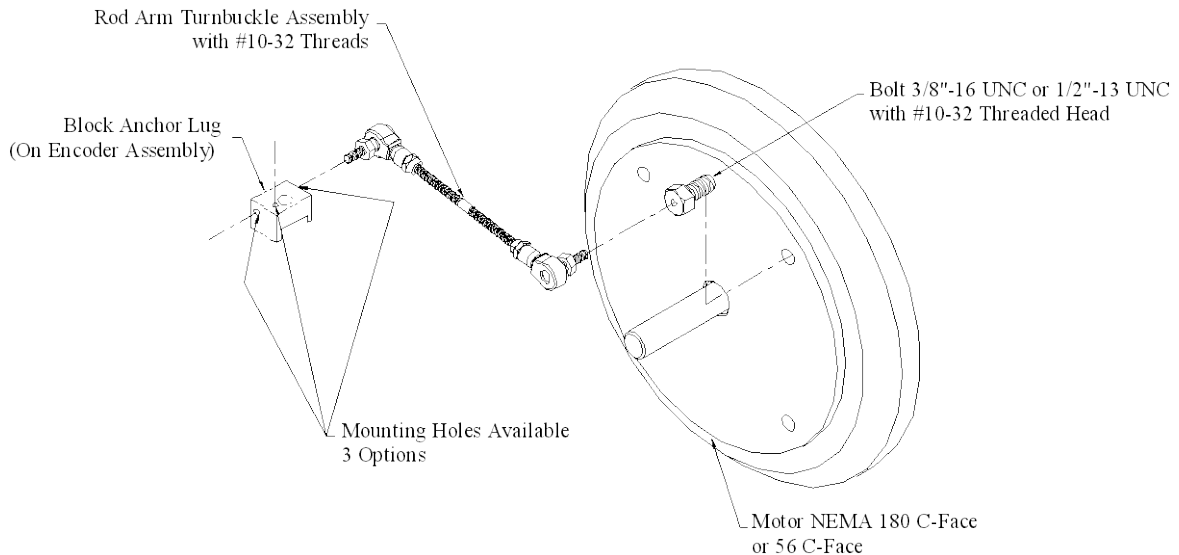

Figure 2: HS56 Anti Rotation Turnbuckle (Motor C-Face Mounting)
| Figure 2: HS56 Anti Rotation Turnbuckle (Motor C-Face Mounting) | 7 |
1. When the HS56 is to be mounted onto a motor with opposite end NEMA C-Face, insert the appropriate bolt (i.e. 3/8"-16 UNC or 1/2"-13 UNC) (provided in hardware kit) into threaded hole on motor C-Face and tighten (see Figure 2). After positioning the encoder to the best angular orientation, adjust rod arm length (see Figure 2) and cut if necessary for proper fit. Align rod end turnbuckle assembly with bolt and tighten to 49 in-lbs. The HS56 anti-rotation arm assembly is designed to accommodate 4.5" and 8.5" C-Face mounting holes.